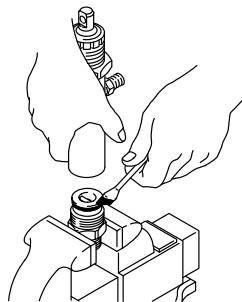

Fig. 34
12. Grease the intake valve o-ring with non-silicon grease. Screw the pump cylinder into the intake valve. Torque to 70 ft-lb (95 N.m). See Fig. 34.